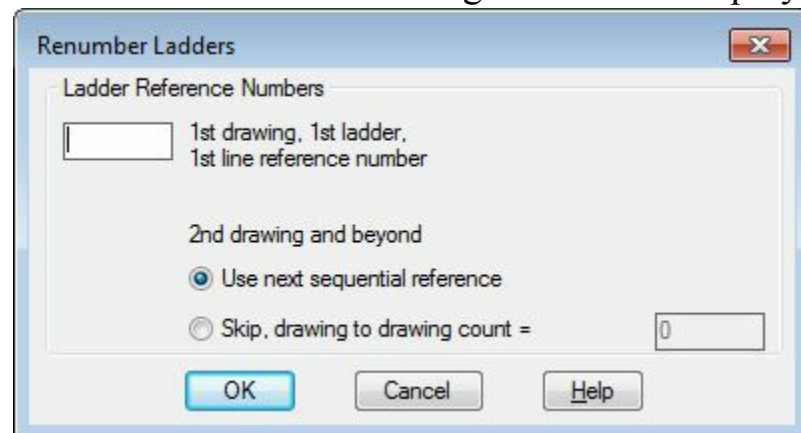

Figure-58. Renumber Ladders dialog box
- Click on the **Renumber Ladder Reference** tool from the **Ladder Editing** drop-down. The **Renumber Ladders** dialog box will be displayed; refer to Figure-58.